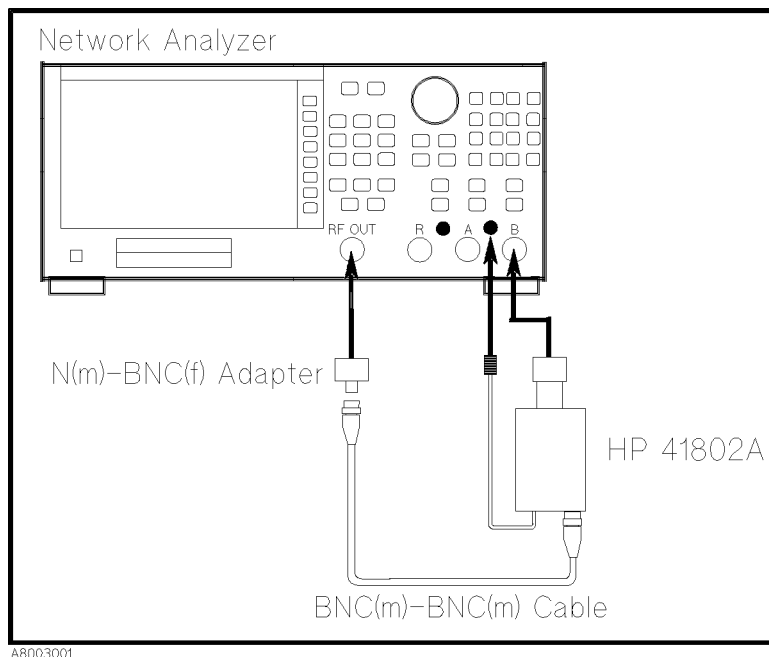

Figure 3-1. Operating Check Setup Using HP 8751A or HP 3577A/B Network Analyzer
1. Connect the equipment as shown in Figure 3-1. Note that the probe power plug must be connected before connecting the HP 41802A's N-type connector.